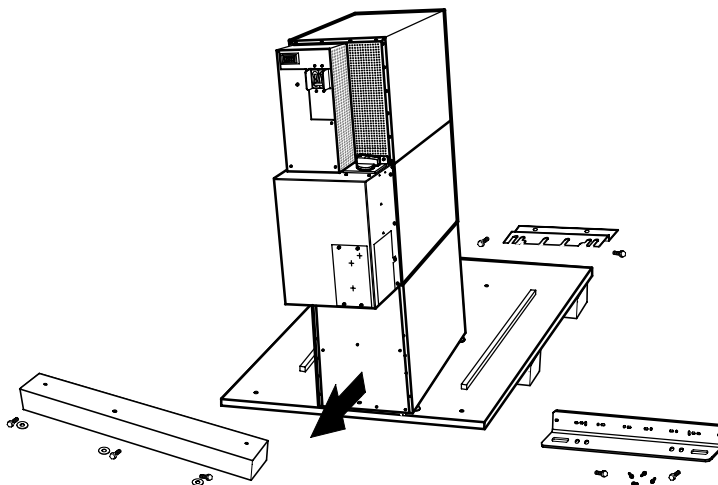

Figure 4. Unloading the Cabinet
7. Slowly roll the cabinet toward the rear of the pallet. Once the pallet tilts, continue rolling the cabinet down the pallet until the cabinet touches the floor (see Figure 4).